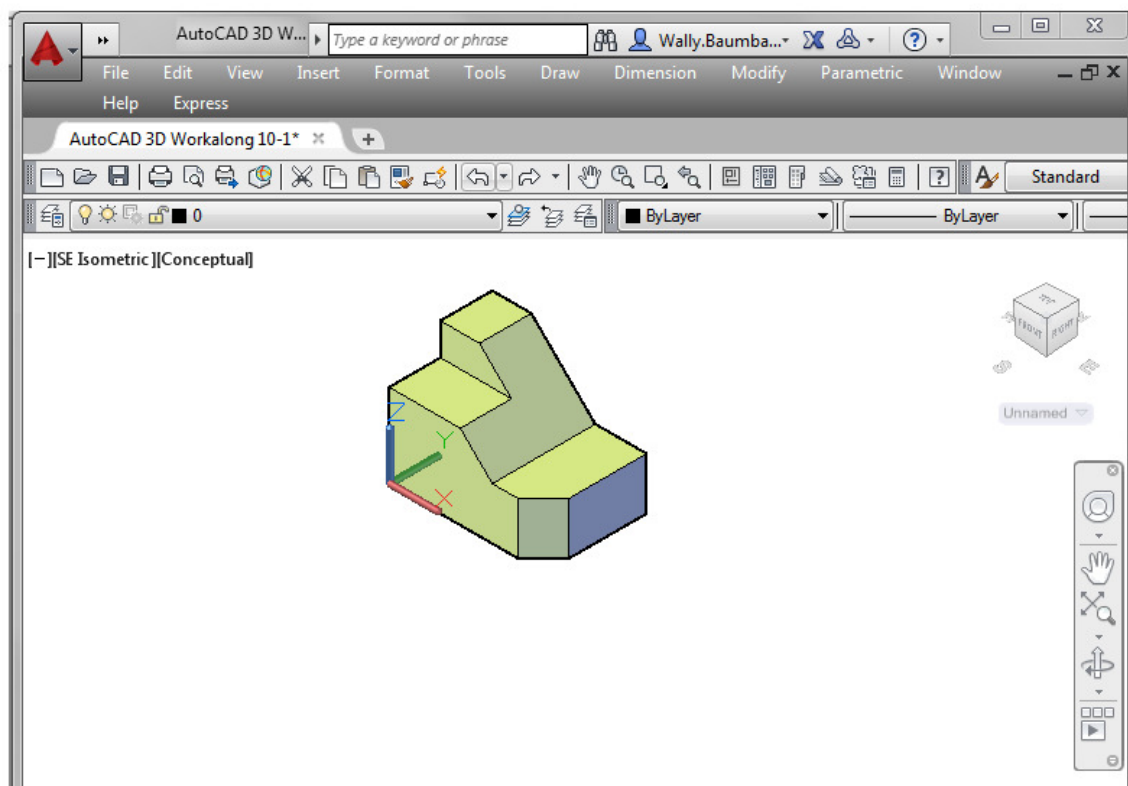

Figure Step 3
Step 3 The Graphic window should appear similar to the figure. (Figure Step 3)